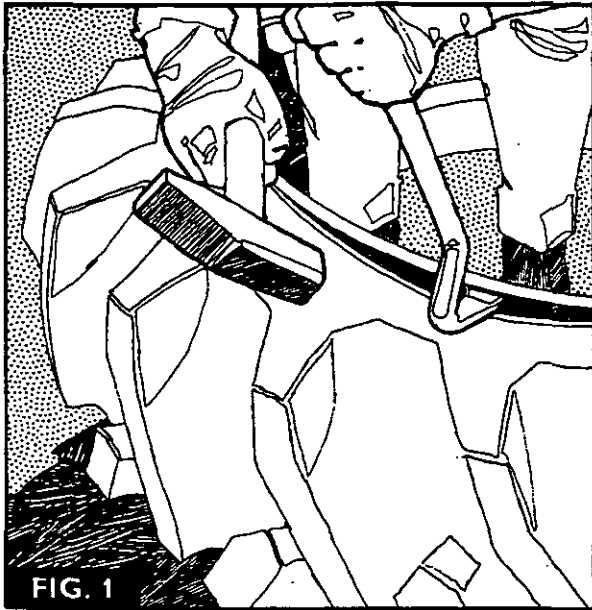

FIG. 1
3. Fig. 1. Drive the 'bead-breaking' tool between the tyre and rim, taking care not to damage the rim or the tyre.